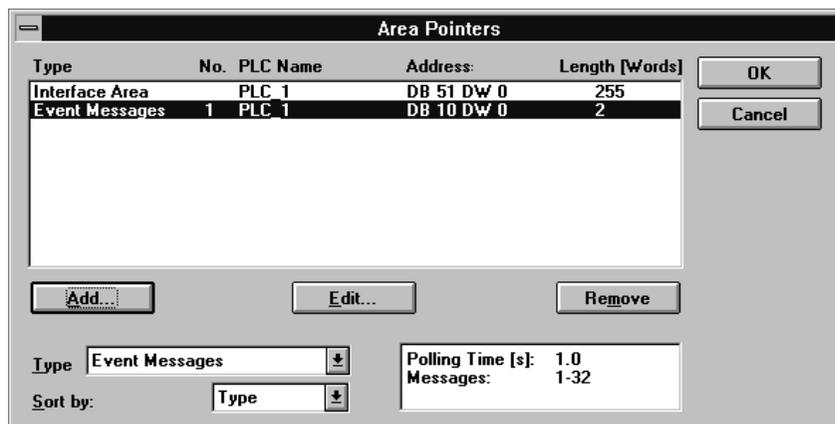

Figure 8-4 Area Pointers Dialog Box
1. Choose *System* → *Area Pointers* from the menu to create the event message area. The *Area Pointers* dialog box is opened (figure 8-4).